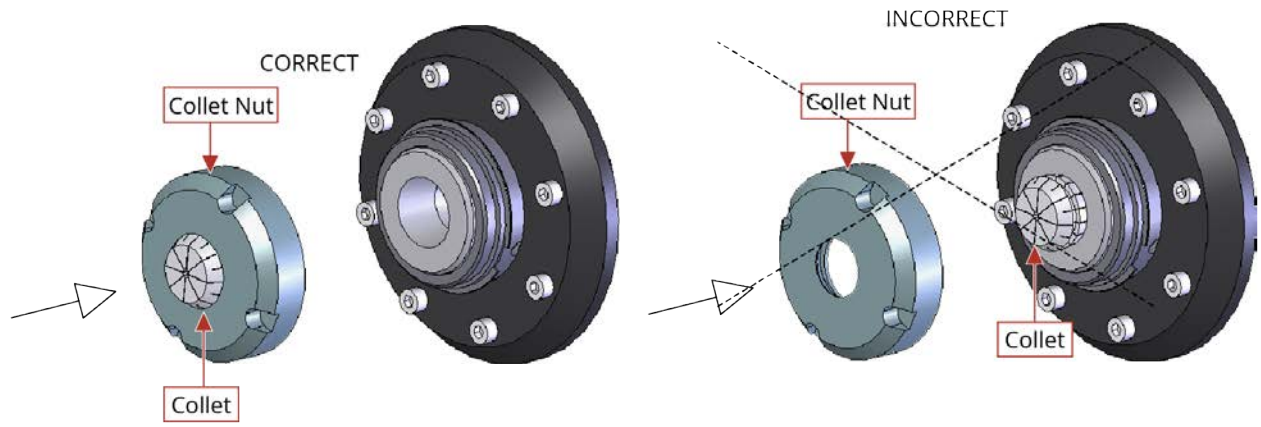

Figure 2-7: Installation Procedure for Collet
- Step 6: Use the collet nut to guide the collet into the stage (Figure 2-7). Make sure that the collet is installed properly in its taper. Be sure that air pressure is still being supplied to the stage so the collet chuck is in the open position.